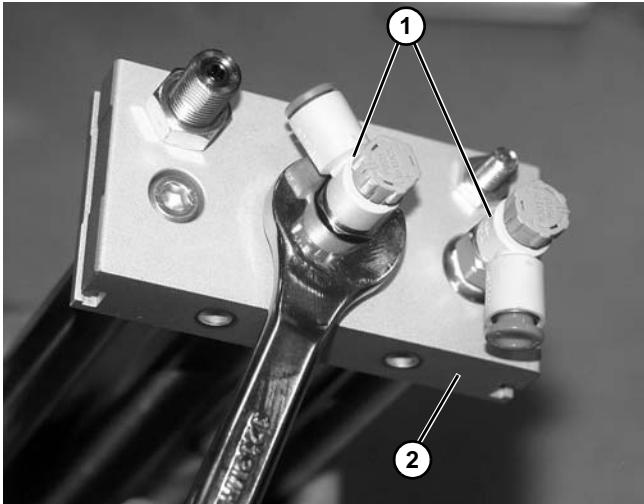

Figure 160
5. Remove two fittings (**Figure 160, item 1**) from cylinder end plate (**Figure 160, item 2**).